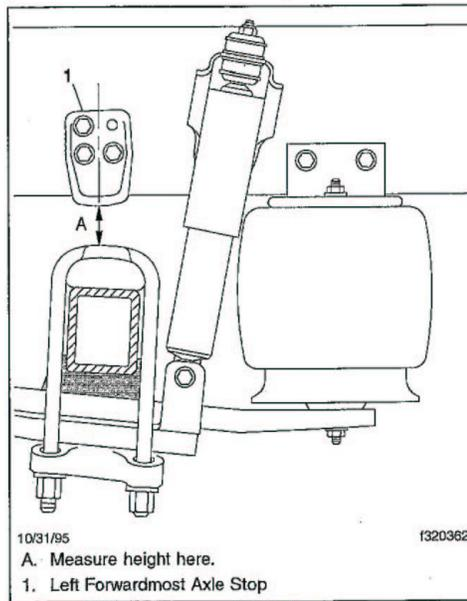

Fig. 3, Axle Stop Measurement
4. Measure the distance from the bottom of the left forwardmost axle stop to the top of the axle U-bolt pad. See **Fig. 3**. If the distance is between 2-3/8 and 2-7/8 inches (60 to 73 mm) it is correct, and nothing more needs to be done. Apply the parking brakes and remove the chocks from the tires.
10. Check the adjusted distance between the bottom of the left forwardmost axle stop and the top of the axle U-bolt pad. See Fig. 3. The correct distance is between 2-3/8 and 2-7/8 inches (60 to 73 mm).
5. Measure the distance from the bottom of the left forwardmost axle stop to the top of the axle U-bolt pad. See Fig. 3. The correct distance is between 2-3/8 and 2-7/8 inches (60 to 73 mm).